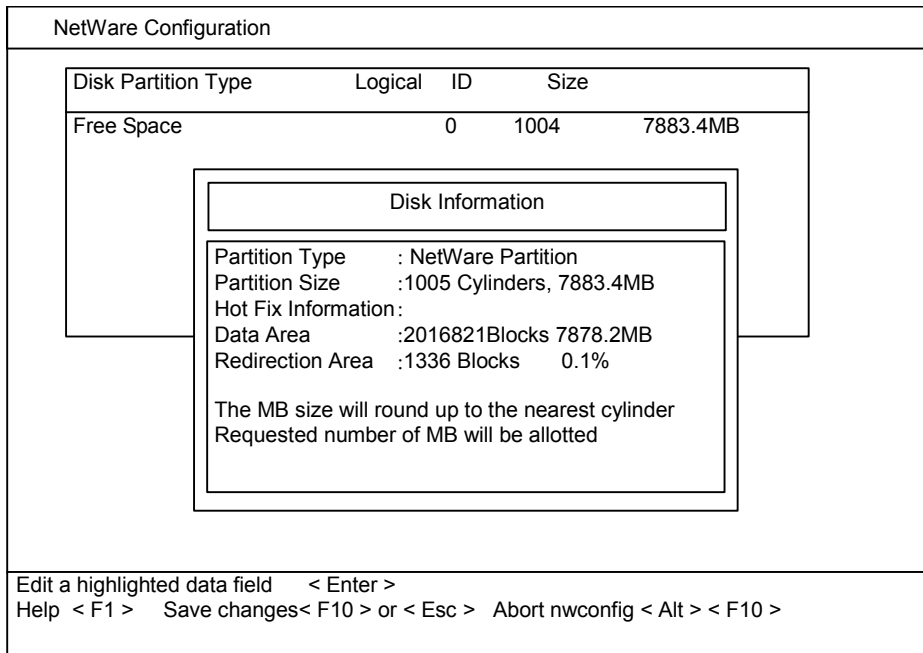

Figure 3.6 Entering the Disk Partition Information
8. On the Disk Partition Information screen (see Figure 3.6), verify (or enter) the partition size and hot fix data area size, and press **F10** to save the changes. You are returned to the Disk Options screen.